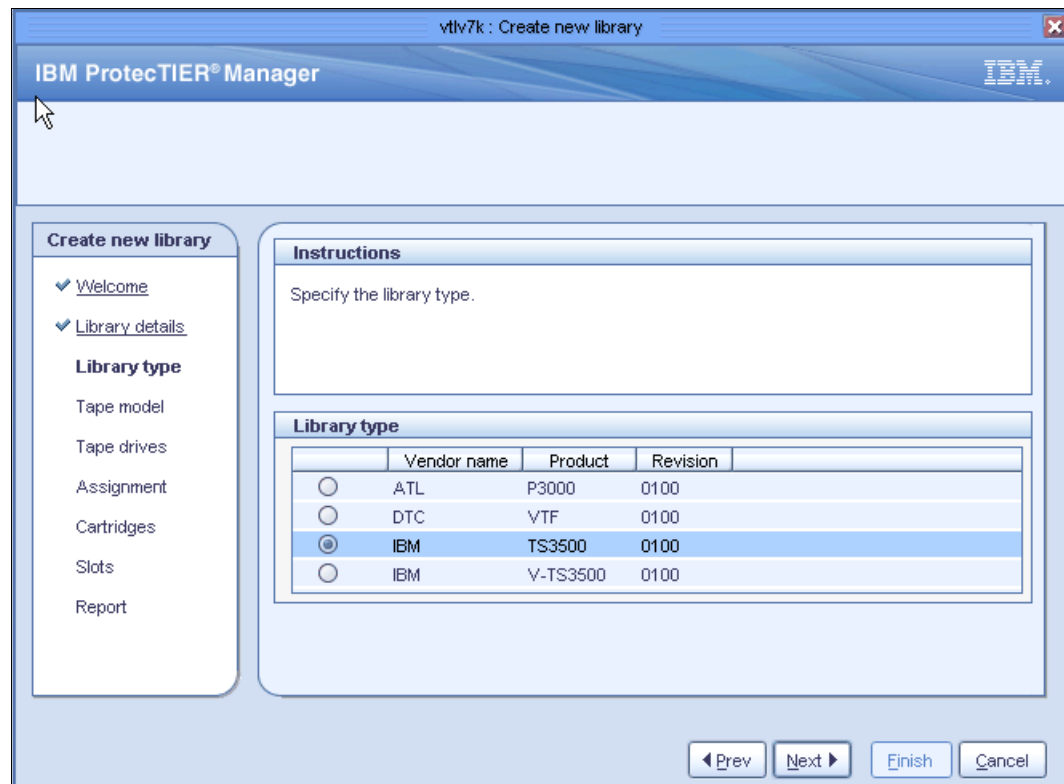

Figure 3-3 Create new library - Library type window
5. Click **Next**. The Library Type window opens (Figure 3-3).